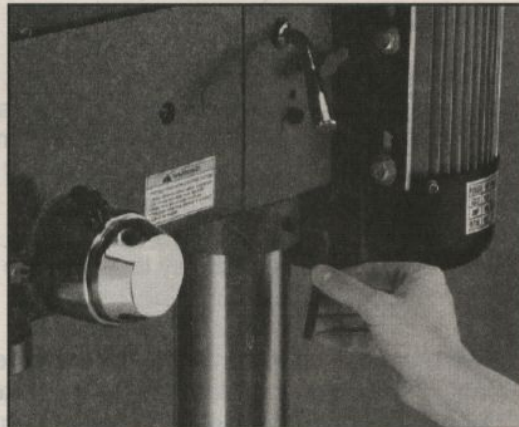

Figure 7
3. Tighten the two setscrews shown in **Figure 7** to secure headstock to the column.